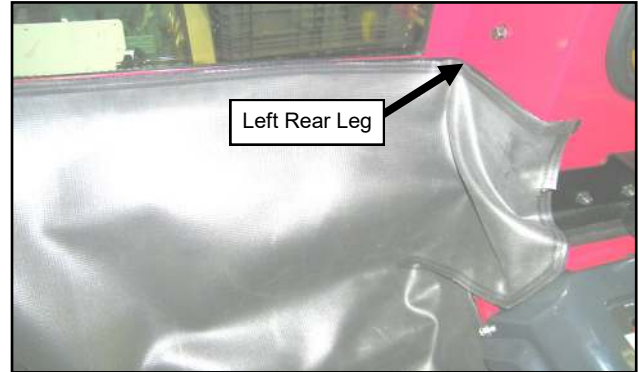

Fig. 24.3a (Install Under Seat Filler)
- 24.3** The back of the filler goes across the bottom of the lower rear panel. See Figures 24.3a and 24.3b. There are notches on the filler that correspond to the rear leg to side frame mounting hardware.